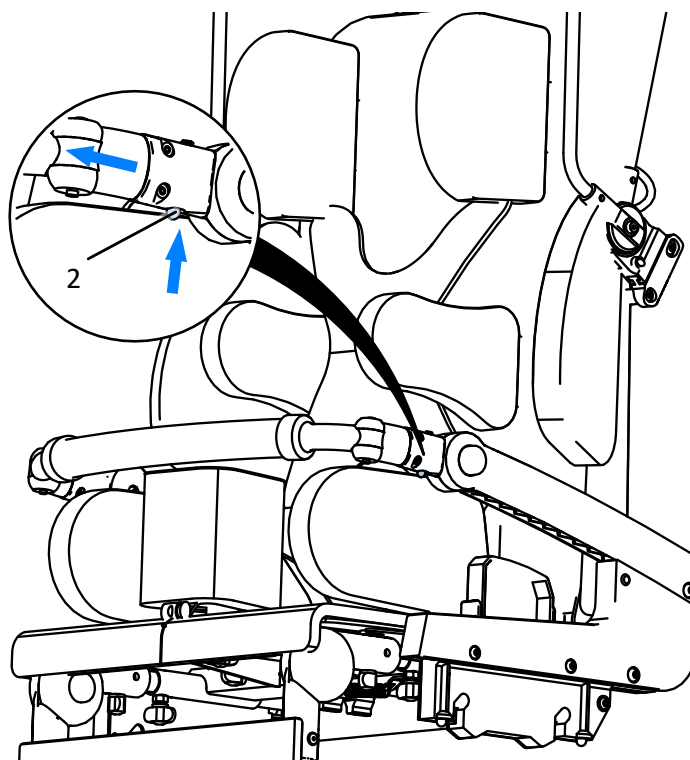

Fig. 26
It is possible to remove the safety barrier Fig. 26. Press the button (2) of the angle regulator and pull out the barrier from the adjustment slot.